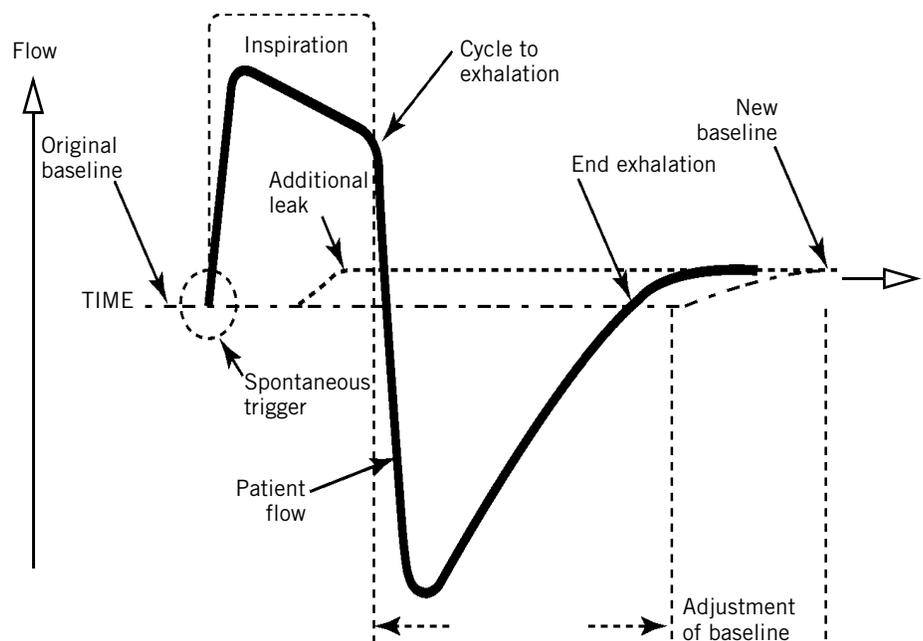

Figure 4-4: Expiratory flow adjustment
**Expiratory flow adjustment.** Every breath, at end-exhalation, the ventilator updates its flow baseline. At end-exhalation patient flow is assumed to be zero, so any difference between actual patient flow and the original baseline flow indicates a change in leakage. Figure 4-4 shows how the ventilator adjusts the baseline.